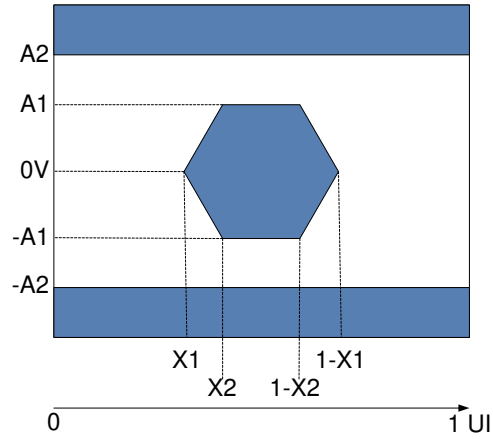

图 6-11. HSSI Eye Characteristics
(1) All power supply connections are required to operate the DMD: VDD, VDDA, VOFFSET, VBIAS, and VRESET. All VSS connections are required to operate the DMD.
(2) All voltage values are with respect to the ground pins (VSS).
(3) To prevent excess current, the supply voltage delta | VDDA - VDD | must be less than specified limit.
(4) To prevent excess current, the supply voltage delta | VBIAS - VOFFSET | must be less than specified limit.
(5) Supply power dissipation based on 3 global resets in 200 μs.
(6) LVC MOS input specifications are for pin DMD\_DEN\_ARSTZ.
(7) LVC MOS output specification is for pins LS\_RDATA\_A and LS\_RDATA\_B.
(8) Refer to Figure 6-11, Receiver Eye Mask (1e-12 BER).
- (5) See 图 6-11 for rise time and fall time for HSSI Eye Characteristics.